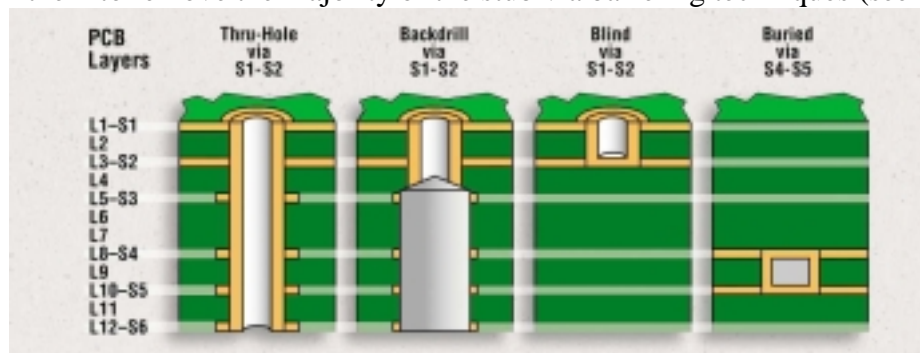

Fig. 1: Example Of Various Via Types
Tools such as Agilent EEsof EDA's Advanced Design System can model vias, lossy transmission lines, and cable interconnects. With these tools hardware engineers can get a very accurate representation of these effects and plan accordingly to prevent eye closures at their respective receivers. Advanced PCB design techniques can be used to combat these signal integrity (SI) issues. At RF vias look like stubs and PCB manufacturers can back-drill them to remove the majority of the stub via barreling techniques (see Fig. 1).